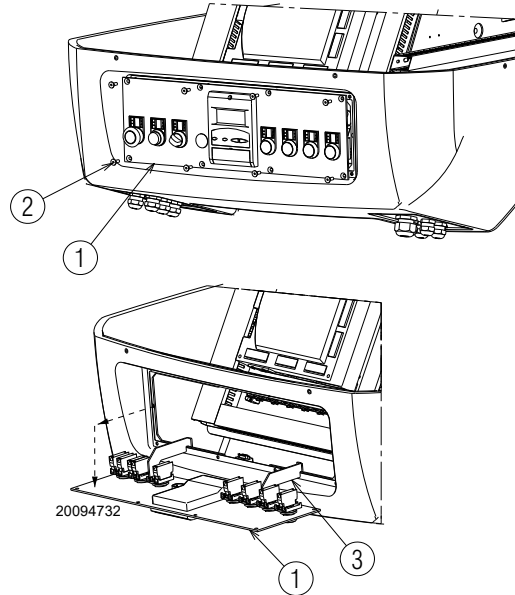

Fig. 32
- unscrew the screws 2) of the control panel 1)(Fig. 32);
- extract the control panel 1) and turn it 90°, hooking it with the brackets 3) in the profile of the electrical panel as shown in Fig. 32;